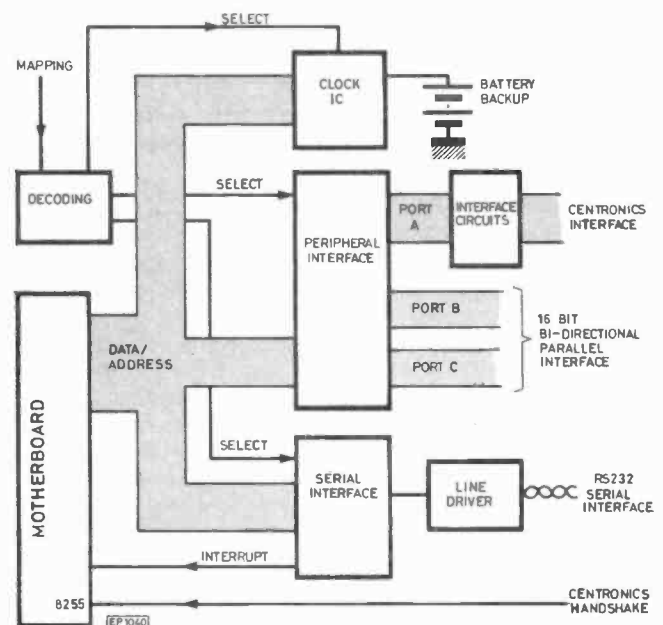

Fig. 8. Port Card
There are two interface cards, these being an analogue card and a port card. The port card (Fig. 8) provides a real-time clock (with a battery to keep it ticking when you switch off) an RS-232 interface (for terminals etc.) a Centronics interface (for printers) and parallel lines (16) which can be used to control peripherals.